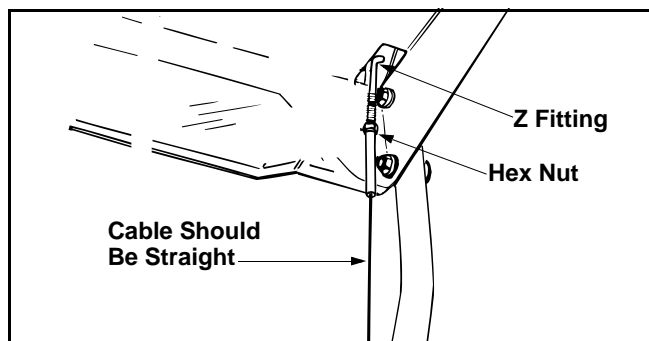

Figure 17
- Retighten the hex jam nut. See Figure 17.